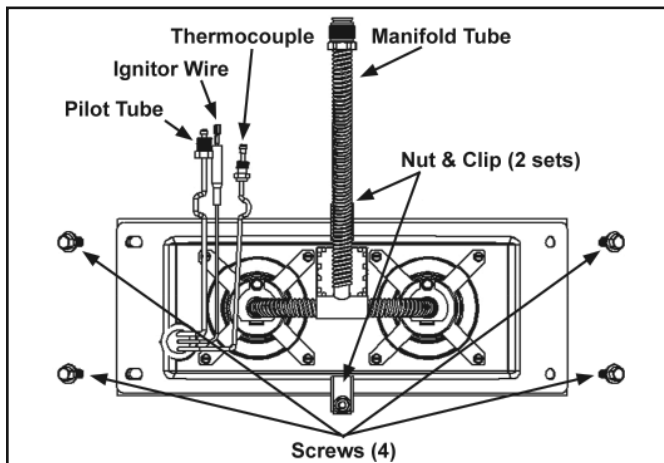

FIGURE 21
4. Disconnect the thermocouple (right-hand thread), pilot tube, the ignitor wire from the ignitor button, and manifold tube at the thermostat (Figure 21).
5. Remove the four screws at corners and the two sets of nuts and clips in the middle securing the burner door assembly to the combustion chamber (Figure 21.).